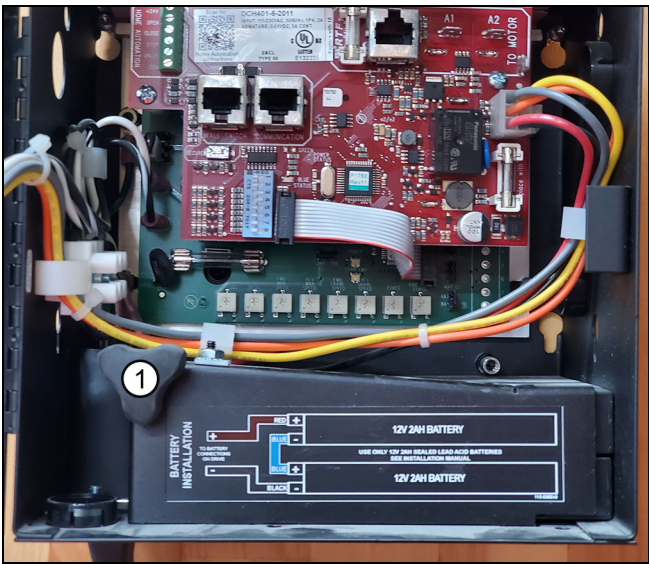
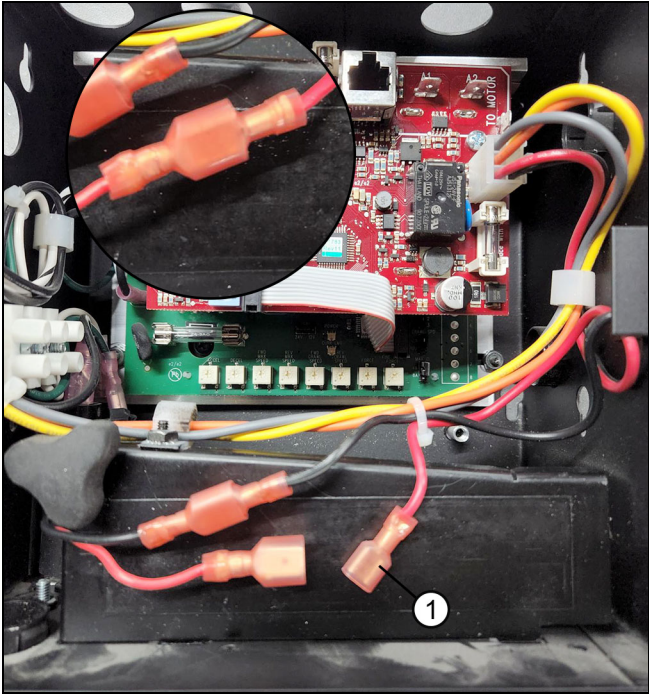

Figure 14
Figure 15
5. Remove the battery cover and battery from the control box. Connect the two loose red battery cables together to complete the circuit. Replace the battery and battery cover/nut. See Figure 14 and Figure 15.